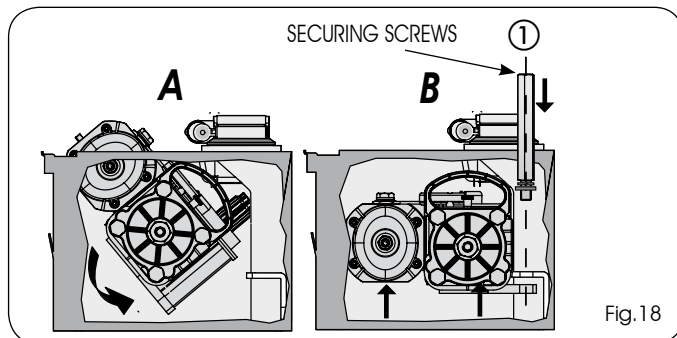

Fig. 18
- 8) Using the handles, insert the operator in the bearing case as shown in Fig. 18 A,
- 10) Raise the operator with its handles (Fig. 18 ref. B), inserting the pinion in the grooved bush of the bearing case. To facilitate the operation, slightly rotate the operator until coupling takes place.
- 11) Insert and screw the fastening screws with groover and washer as shown in Fig. 18 B ref. 1, in order to secure the operator to the bearing case. (TO FACILITATE THE OPERATION, SUPPORT THE MOTOR FROM THE CENTRAL PART)
shown in Fig. 18 A
- 13) Raise the operator with its handles (Fig. 18 ref. B), inserting the pinion in the grooved bush in the bearing case. If it does not enter, slightly rotate the operator until coupling takes place.
- 14) Insert and screw the fastening screws with groover and washer as shown in Fig. 18 B ref. ①, in order to secure the operator to the bearing case (TO FACILITATE THE OPERATION, SUPPORT THE MOTOR FROM BENEATH THE CENTRAL PART).